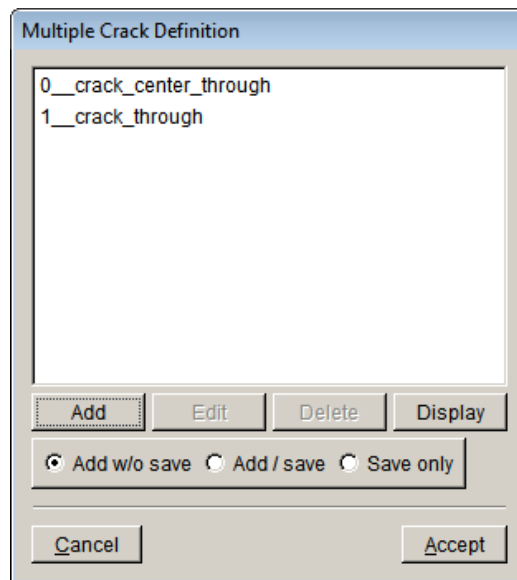

Figure 5.19 Multiple crack definition dialog with two cracks defined.
5.18. If you set the orientation incorrectly, select **Back** to fix it. When you are done, select **Finish**. The Multiple Crack Definition dialog now has two crack names, Fig 5.19.